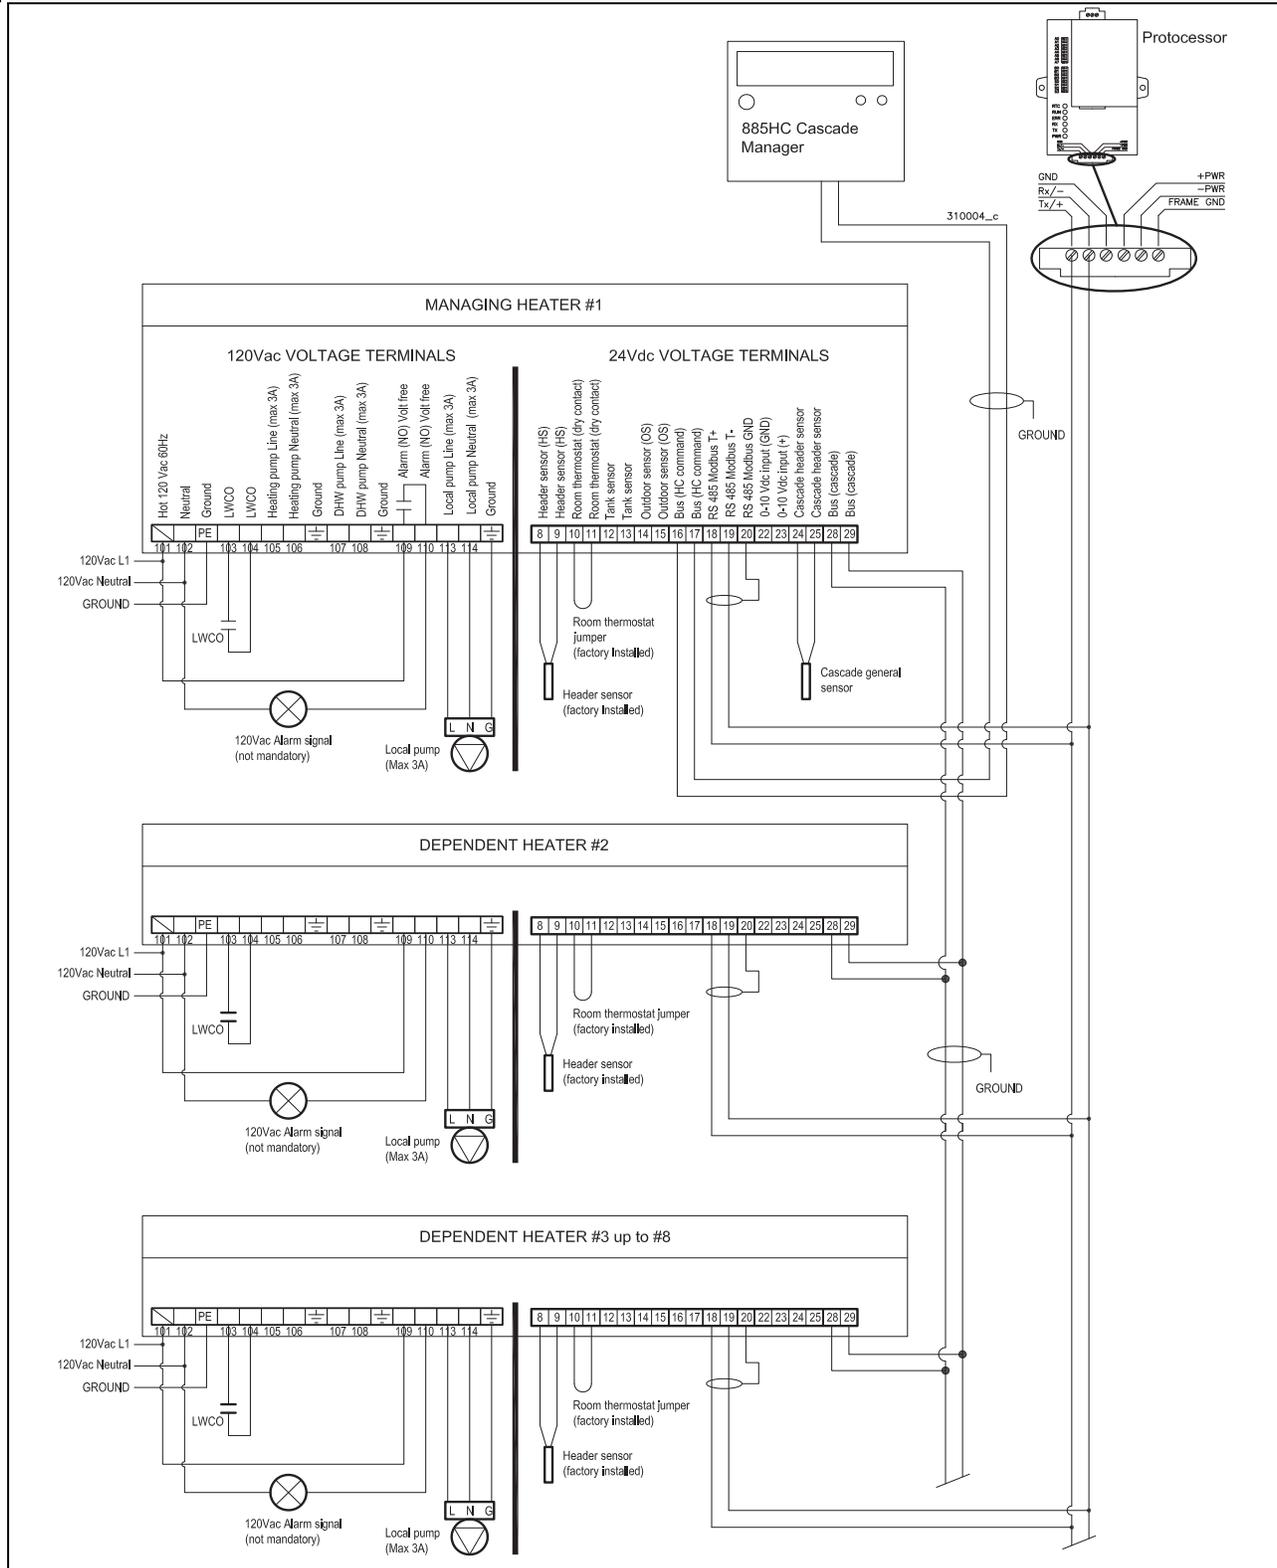
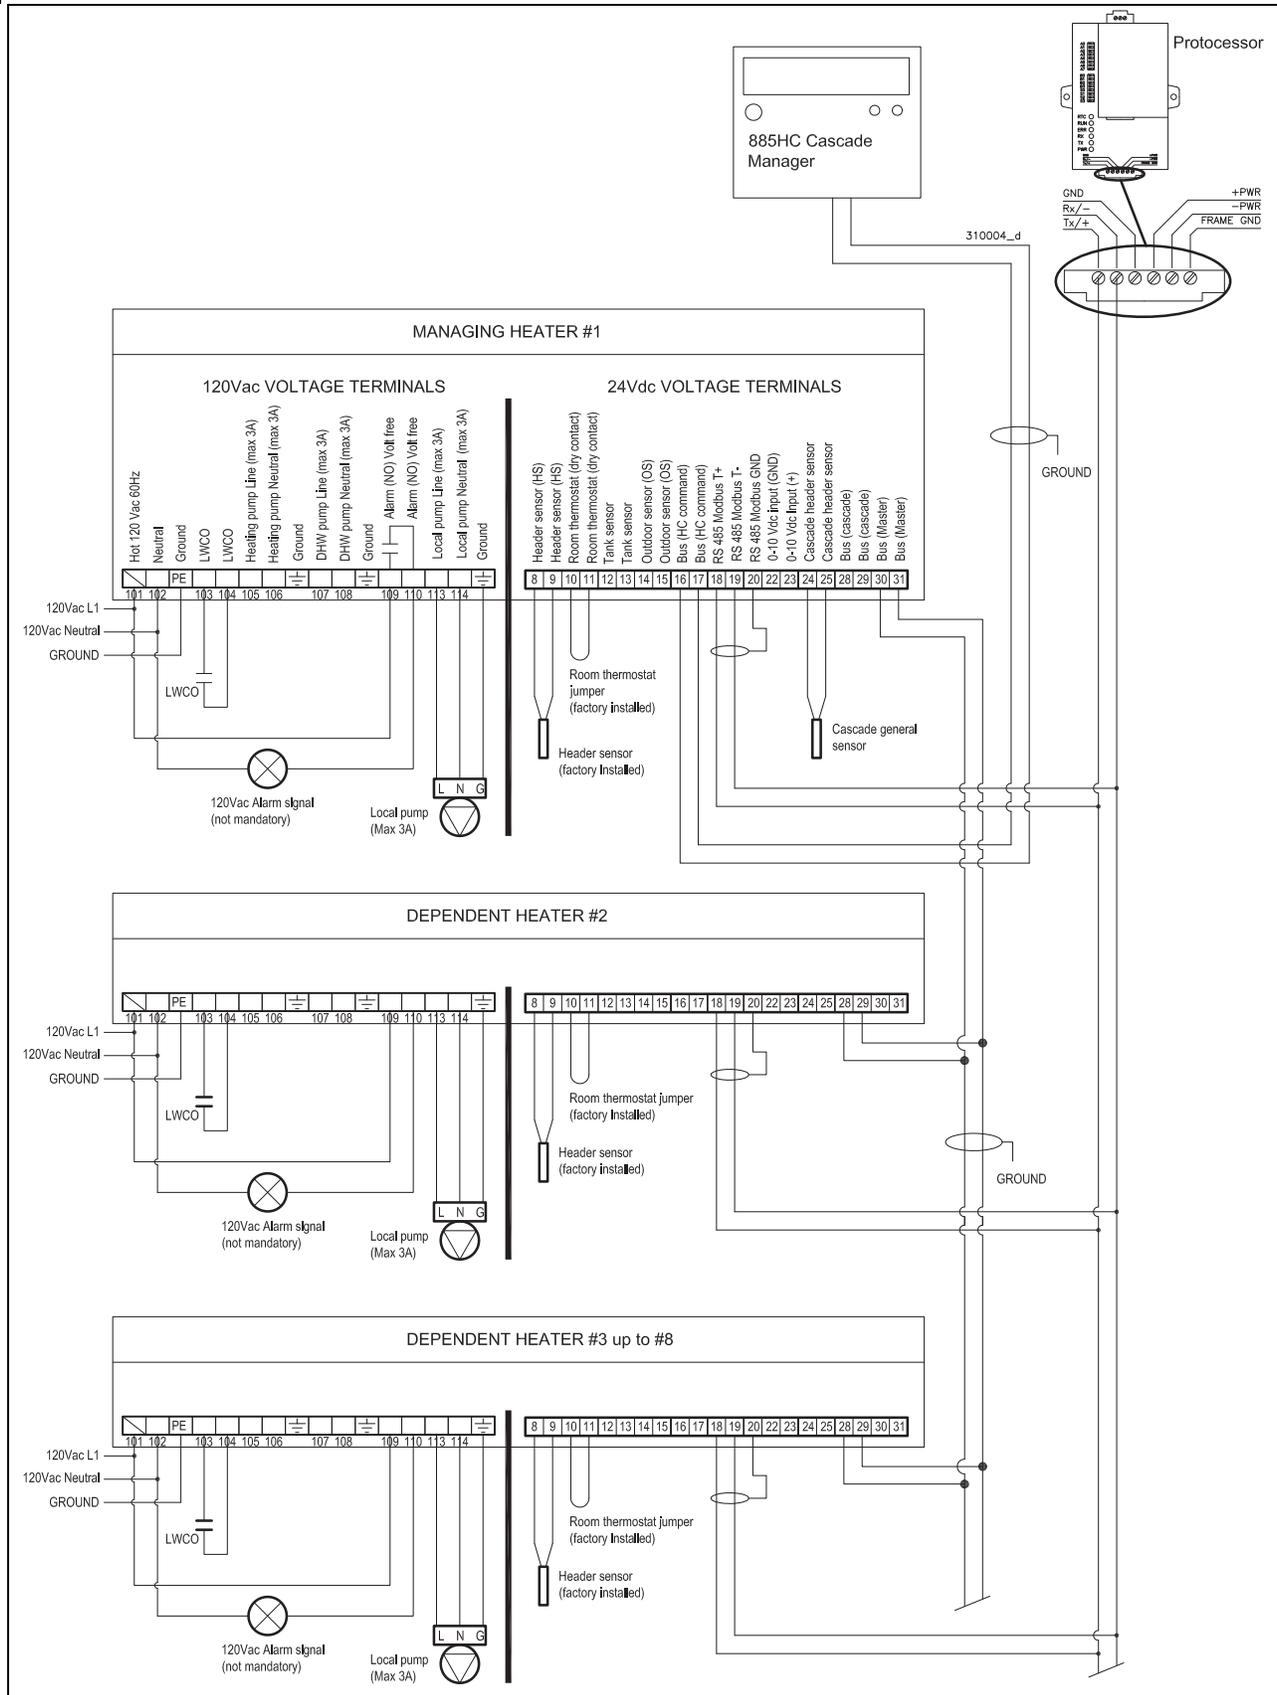

Figure 34: Cascade connection with MODBUS
Figure 35: Cascade connection with MODBUS
- 1 - Make a daisy chain between terminals 28 and 29 of each heater should be already in place follow instruction of the 885HC cascade sequencer (see figure 34). For heaters with serial number higher than 15000000 the manager heater need to have the wiring connected to terminals 30 and 31 (see figure 35);
- 2 - Connect a daisy chain between terminals 18, 19 and 20 of all units (see Figures 34 or 35).
- 3 - Connect the daisy chain to the Rx Tx terminals of the protonode (see Figure 34 or 35).